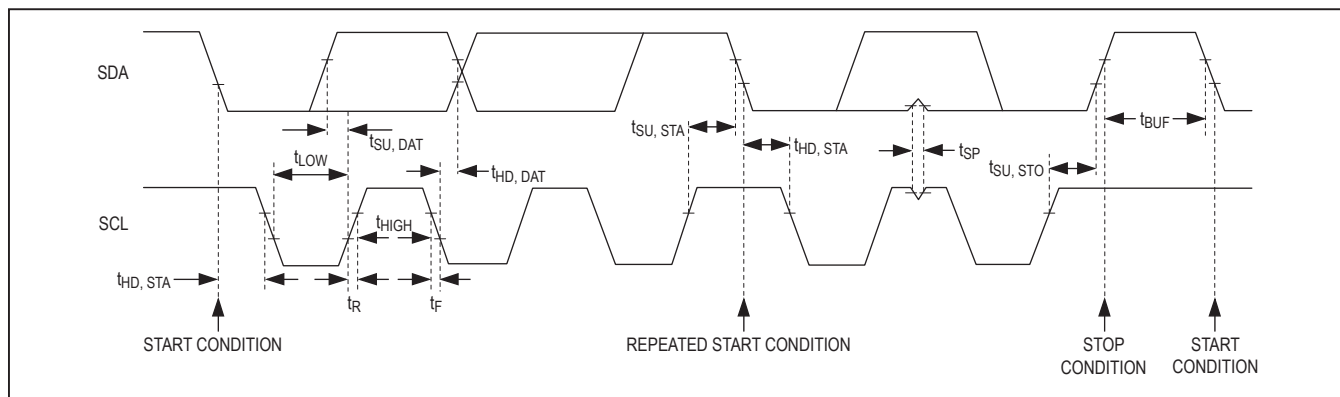

Figure 9. 2-Wire Interface Timing Diagram
The MAX9867 features an I²C/SMBus-compatible, 2-wire serial interface consisting of a serial-data line (SDA) and a serial-clock line (SCL). SDA and SCL facilitate communication between the MAX9867 and the master at clock rates up to 400kHz. Figure 9 shows the 2-wire interface timing diagram. The master generates SCL and initiates data transfer on the bus. The master device writes data to the MAX9867 by transmitting the proper slave address followed by the register address and then the data word. Each transmit sequence is framed by a START (S) or REPEATED START (Sr) condition and a STOP (P) condition. Each word transmitted to the MAX9867 is 8 bits long and is followed by an acknowledge clock pulse. A master reading data from the MAX9867 transmits the proper slave address followed by a series of nine SCL pulses. The MAX9867 transmits data on SDA in sync with the master-generated SCL pulses. The master acknowledges receipt of each byte of data. Each read sequence is framed by a START or REPEATED START condition, a not acknowledge, and a STOP condition. SDA operates as both an input and an open-drain output. A pullup resistor, typically greater than 500Ω is required on SDA. SCL operates only as an input. A pullup resistor, typically greater than 500Ω, is required on SCL if there are mul-